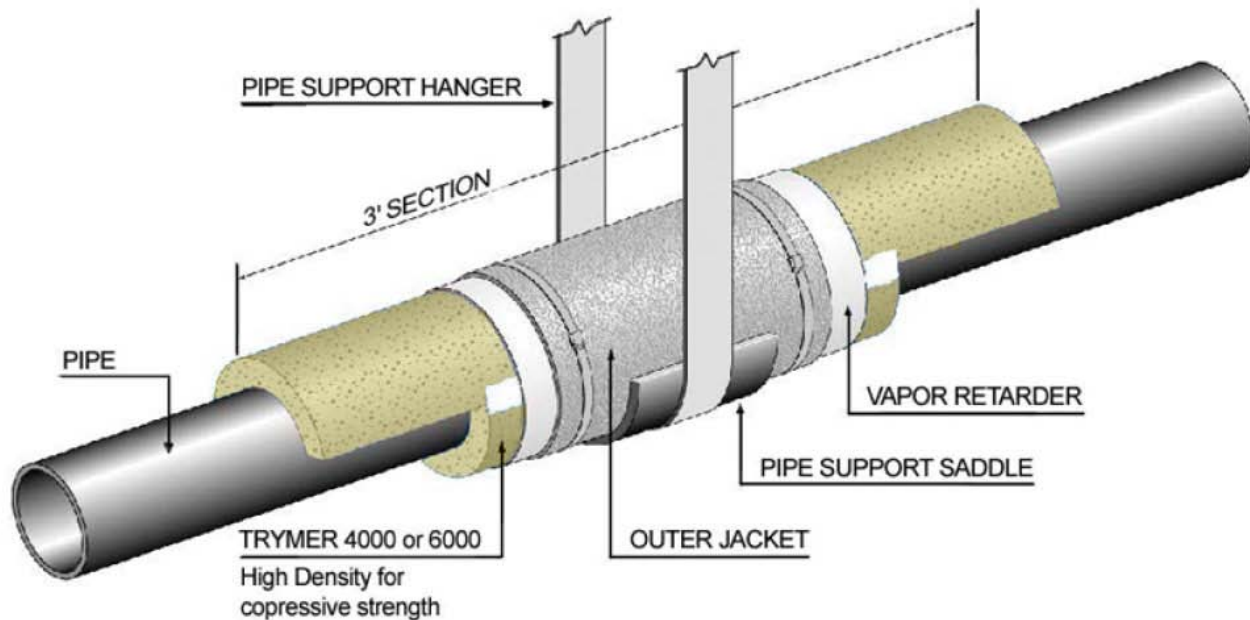
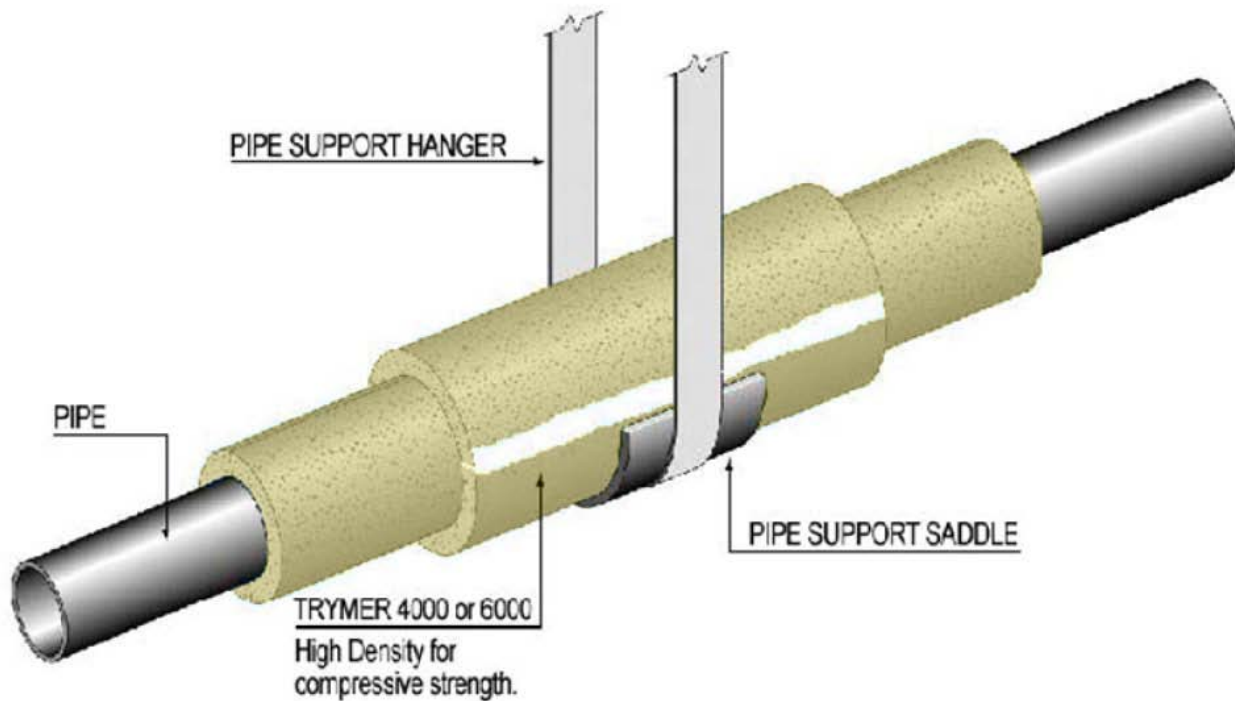

Figure 5
Figure 6
- 4.1.5 Install half length pipe section half round on bottom of all pipe hanger saddles with a full pipe section half round on the top so as to maintain a staggered joint through the pipe hanger saddle (see Figure 5 in Appendix B). In double layer systems install nested half and full pipe half round sections in bottom of saddle or use a full thickness single layer pipe section with shi lap ends cut to the depth of the inner layer thickness so the outer layer will overlap (see Figure 6 and Figure 7 in appendix B).